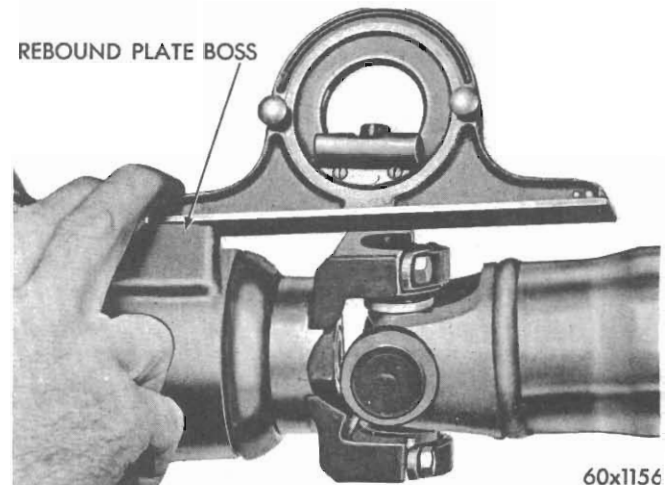

Fig. 3 - Checking rear axle angularity
- (1) Place the vehicle on a hoist, pit or wheel alignment rack so that the weight of the vehicle is on all four wheels.
- (2) Remove the rebound plate and bumper from the top of the differential carrier housing.
- (3) Place the protractor on the machined surface of the rebound plate bosses, level the bubble, and record the reading of angularity (*Fig. 3*).